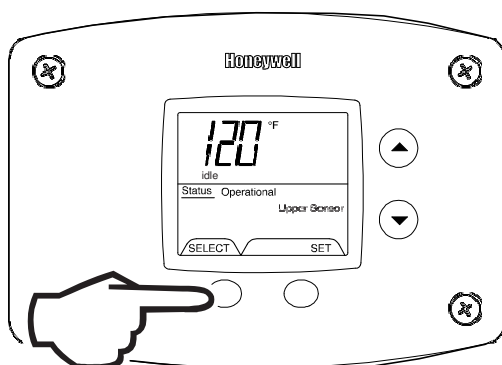

Fig. 31
- 2b. Water Temperature - Upper Sensor (Displays if there is an upper sensor – some models) (Fig. 31).